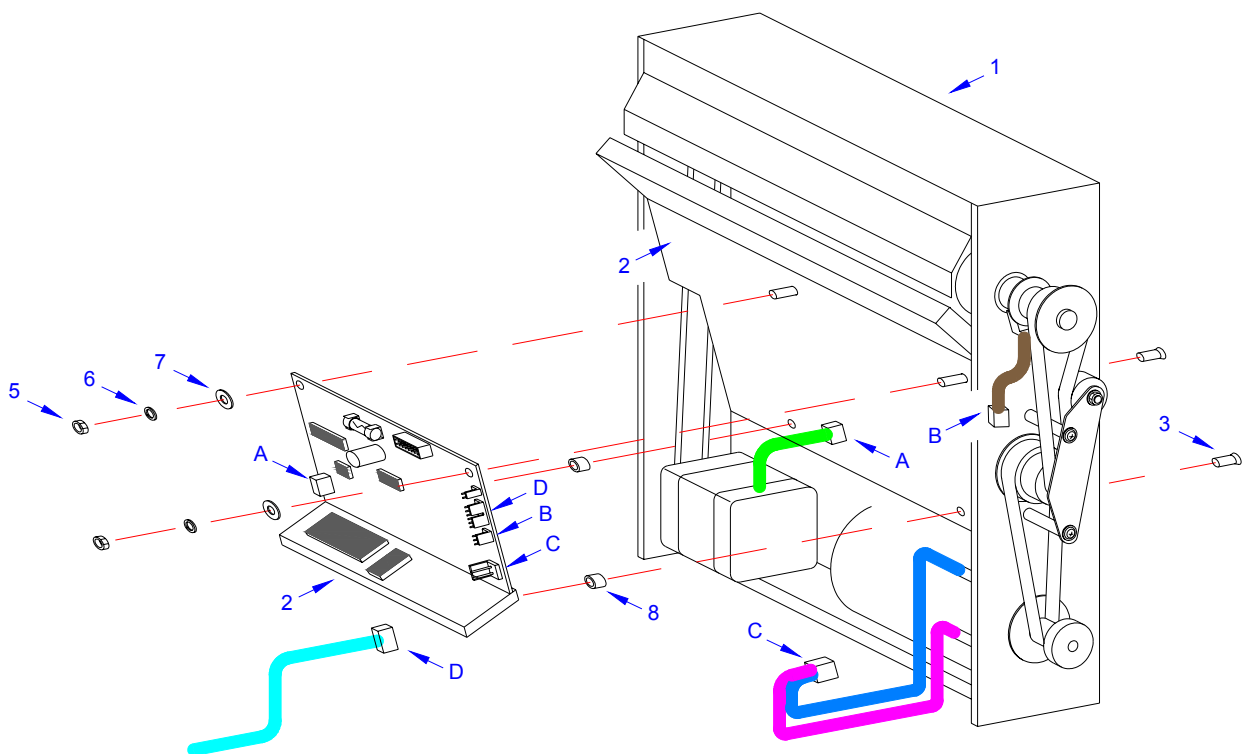

Figure 7-24, Cutter Circuit Board Replacement
- 2 Remove cutter assembly (1, Figure 7-24) from the printer.